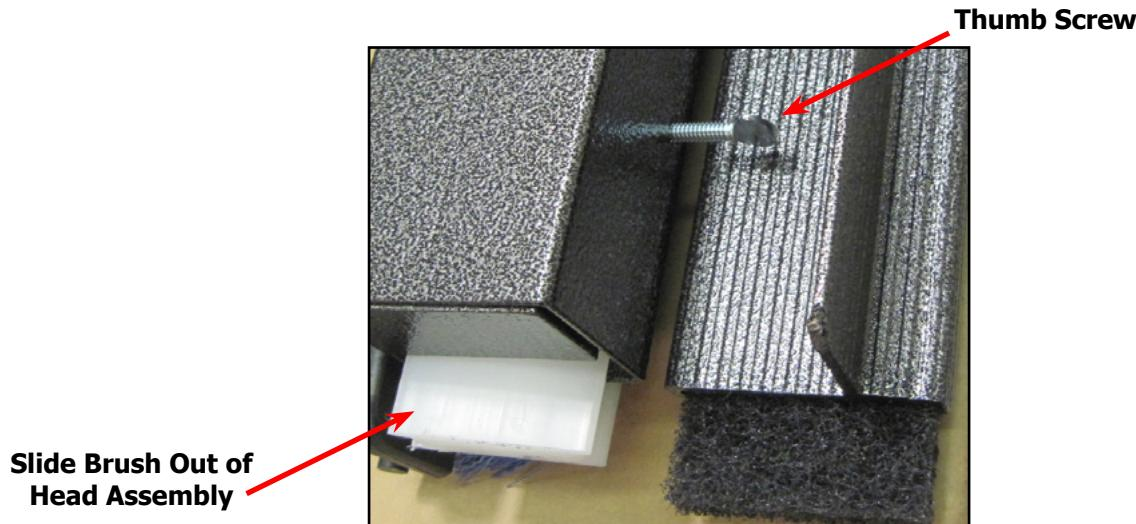

Figure 6. Loosen Thumb Screw and Slide Brush Out of Head Assembly
2. Loosen the thumb screw on the head assembly (see Figure 6).